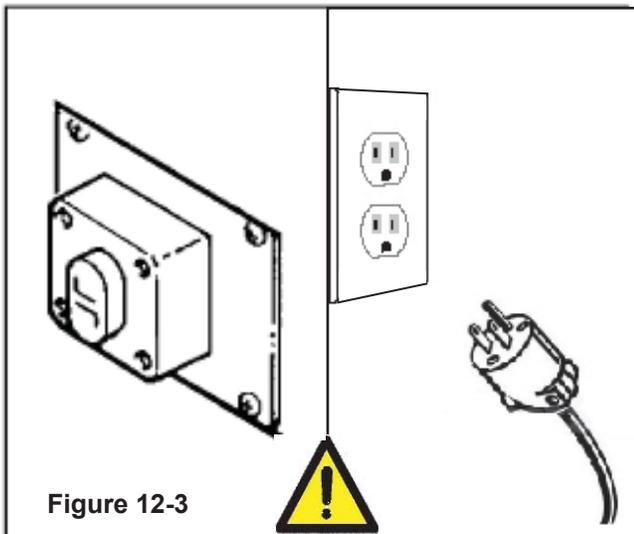

Figure 12-3
**Important:** Before starting the machine, verify that no tools or other objects are on the conveyor bed. Push the main switch ON (I) after the EMERGENCY BUTTON is released (**Figure 12-3**).
Before carrying out any cleaning or maintenance operation stop the machine by Pushing the OFF (O) switch on the main and disconnect the electric power (**Figure 12-3**).